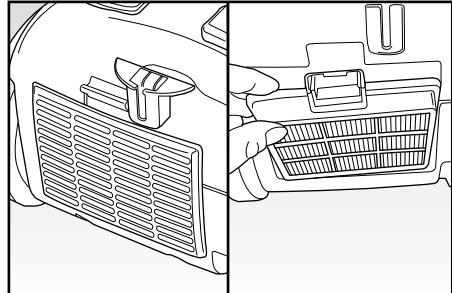

Fig. 11
- Remove the exhaust air filter cover using the special lever (FIG. 11).